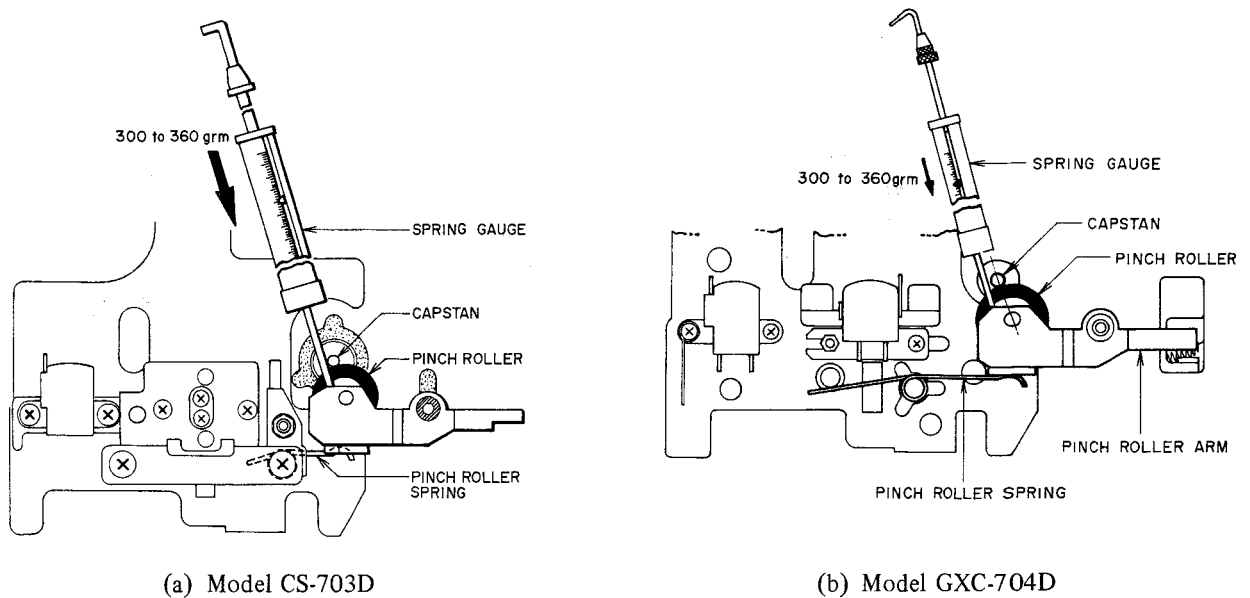

Fig. 8 Pinch Roller Pressure Measurement
2. PINCH ROLLER PRESSURE MEASUREMENT (Refer to Fig. 8)